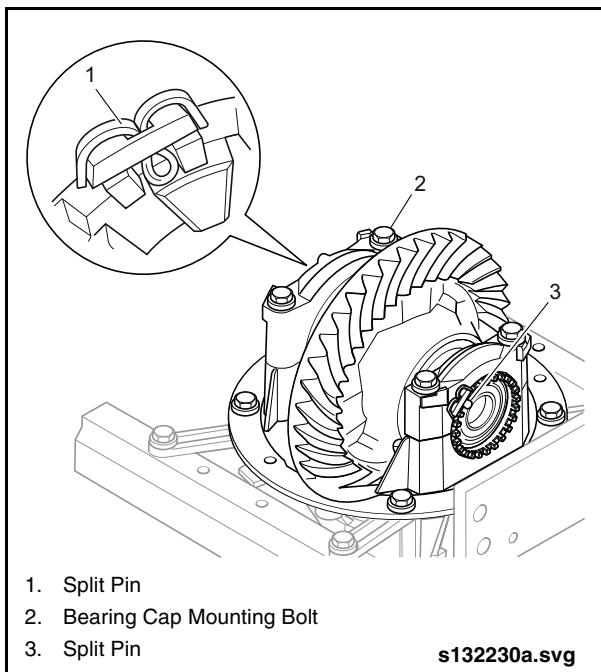

Fig. 2-71: Locking Threaded Bearing Adjusters
9. Secure both threaded bearing adjusters with new split pins. See "Fig. 2-71: Locking Threaded Bearing Adjusters" on page 62.